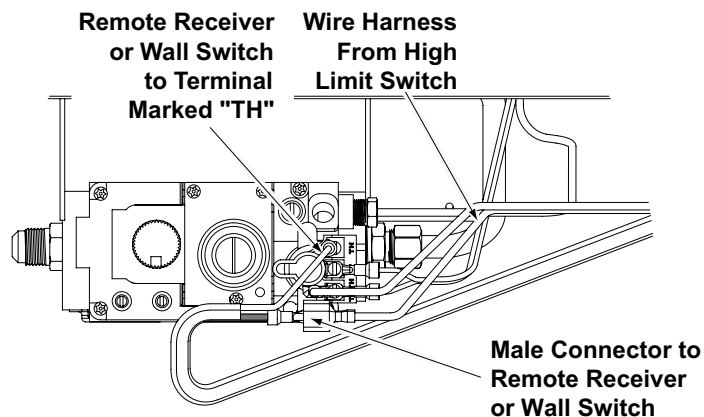

Figure 16 - Connecting Remote Receiver or Wall Switch to the Gas Control Valve
1. Connect one terminal of 15 ft. wire from the wall switch to the male connector on the high limit harness. Connect remaining wire terminal to the TH terminal on the valve. Make sure that the wire terminals are in the positions on the unit as pictured in **Figure 16**. If wires are not connected as shown the switch will not work.
4. Connect one wire from receiver to the male connector on high limit harness and one to "TH" on control valve (see **Figure 16**).